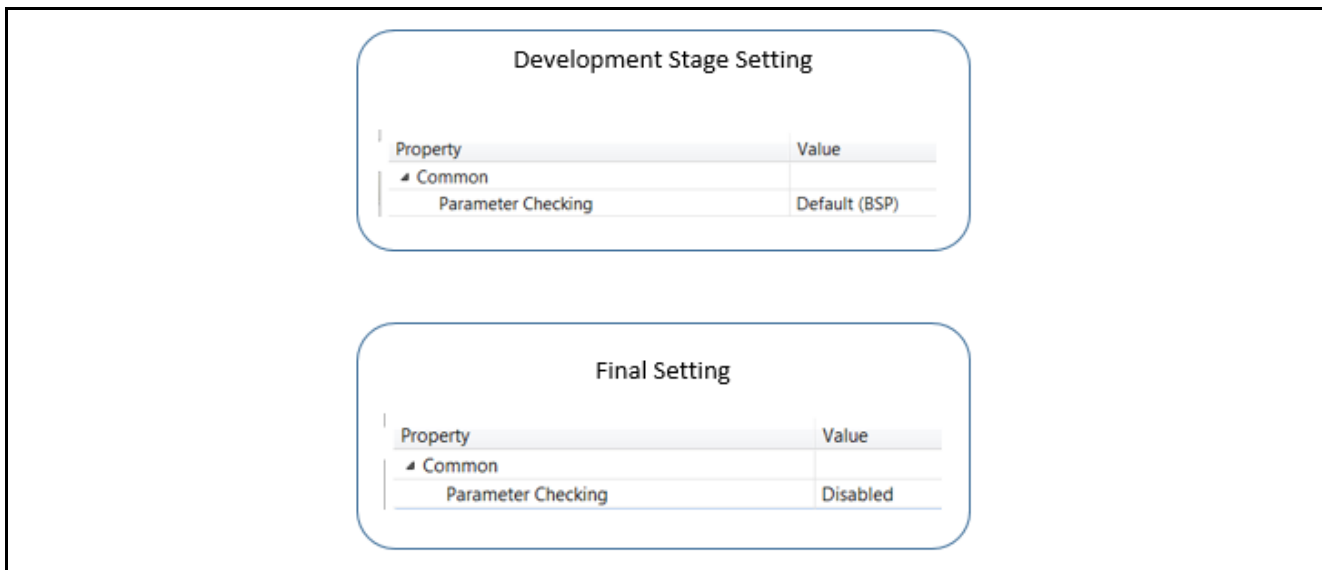

Figure 4. Parameter Checking Setting
Step 9: Update all **Parameter Checking** settings to **Disabled** as pointed out in Figure 4. Recompile and download to test the project.